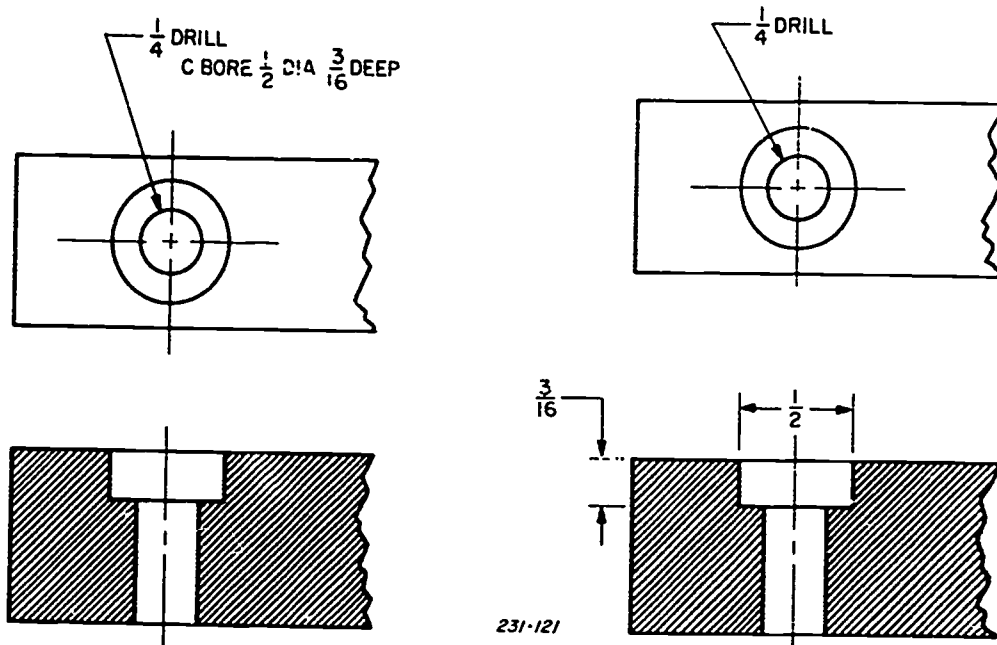

Figure 4-91. Dimensioning counterbores.
**Counterbore.** The counterbore is an enlargement of the end of a drilled hole. It is cylindrical in shape and deep enough to allow a specific clearance. Each counterbore is dimensioned by a note with the abbreviation "C BORE," a leader, the diameter, and the depth of the bore. The two methods of dimensioning a counterbore are shown in figure 4-91.